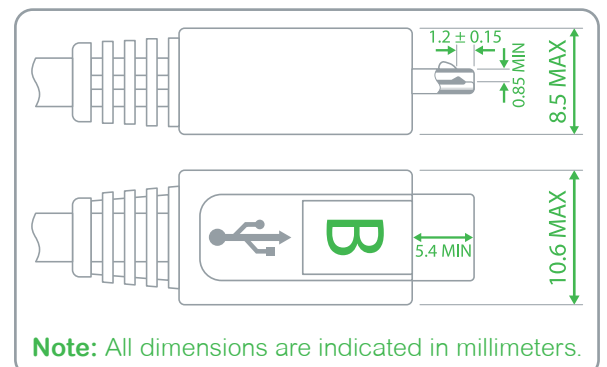

Figure 2. USB cable specification (B connector)
**NOTE:** To ensure proper connectivity, the correct USB cable must be used. Refer to Figure 2 for the required B connector dimensions, according to the "Universal Serial Bus, Micro-USB Cables and Connectors Specification", Revision 1.01.